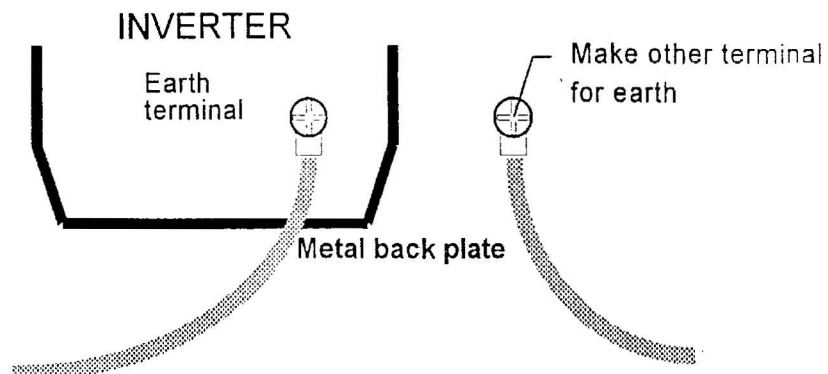

Figure 5. Grounding
- 2) No more than 1 cable should be connected to one earth terminal of the main terminal board. In this case, other cables for earth should be grounded on the metal back plate and/or in the cubicle(Refer to Figure5). The cross-sectional area of earth cable shall be, in any case, not less than;